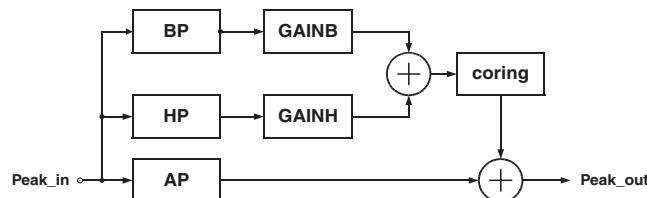

Fig. 2-34: Block Diagram Peaking
The luminance peaking filter improves the overall frequency response of the luminance channel. It consists of two filters working in parallel. They have high pass (HP) and band pass (BP) characteristics. Their gain factors are programmable separately (**BCOF, HCOF**). Values greater than 4 peak the signal, whereas values less than 4 attenuate the signal. The high pass and the band pass filters are equipped with a common coring algorithm. It is optimized to achieve a smooth display of grey scales, not to improve the signal-to-noise ratio. Therefore no artifacts are produced. Coring can be switched off (**YCOR**). The Fig. 2-34 shows the block diagram of the peaking block.